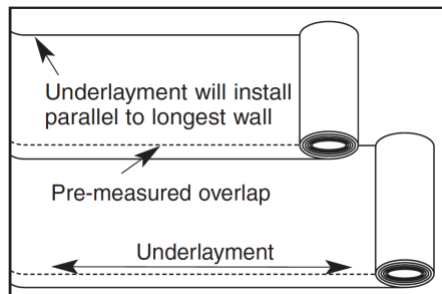

Figure 12
- The floating floor underlayment already has double-sided tape for ease of taping the precut overlapping seams (**Figure 12**). If a non-adhesive underlayment is used butt and tape all seams.